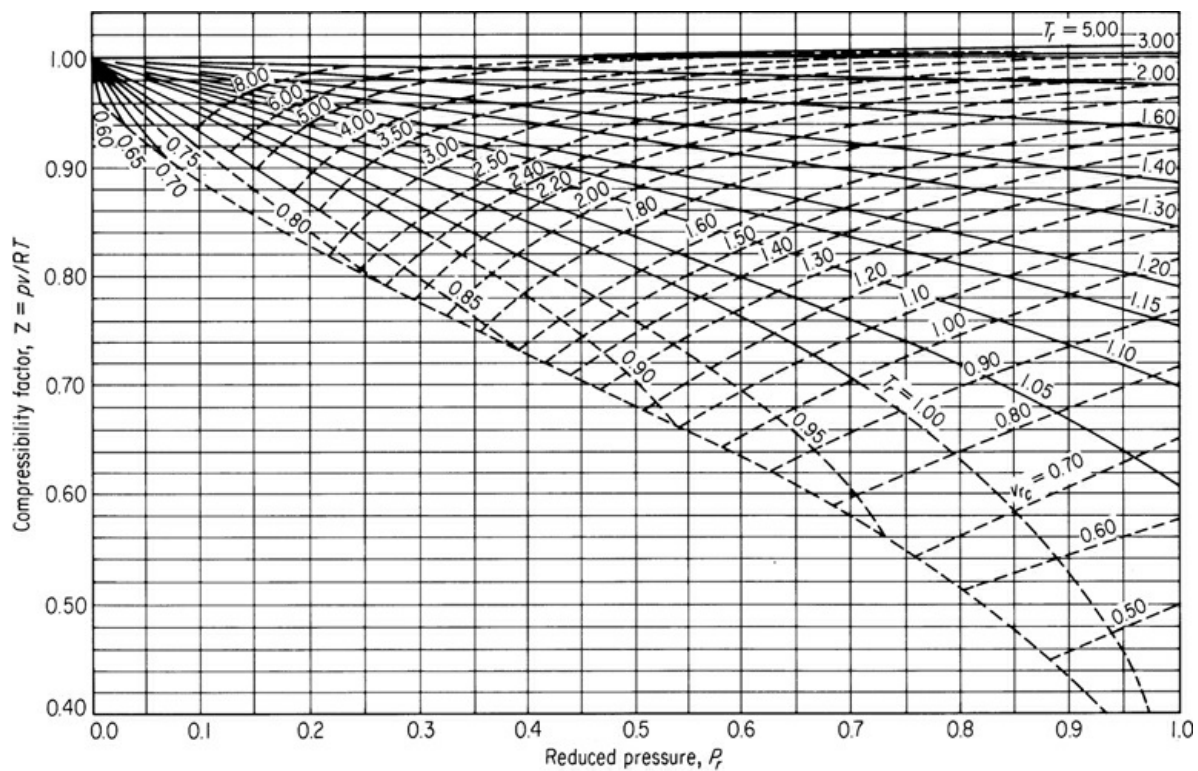
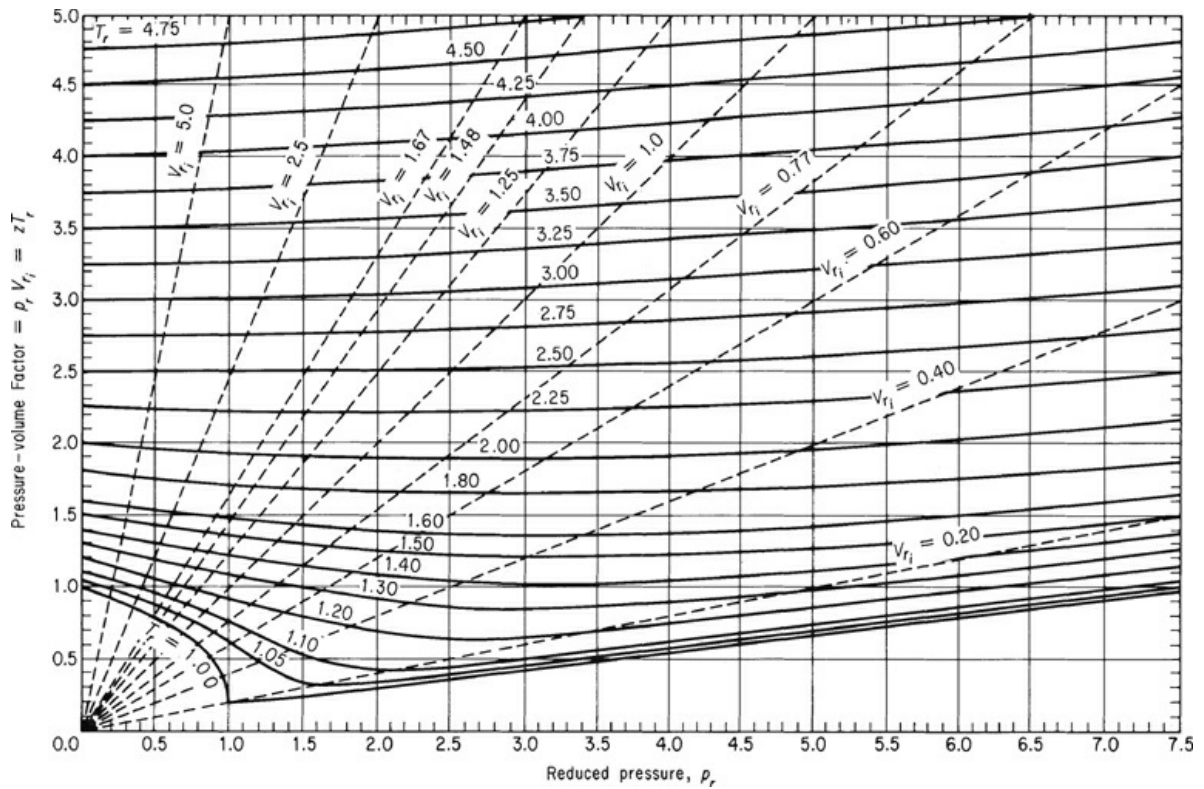

Figure 6.9a Generalized compressibility chart for lower pressures showing z as a function of p_r , T_r , and $\hat{V}_{ri}$.
Figure 6.9b Generalized compressibility chart for higher values of p_r
Figures 6.9a and 6.9b show two examples of the **generalized compressibility factor** charts prepared by Nelson and Obert.³ These charts are based on data for 30 nonpolar gases, including light hydrocarbons, CO_2 and N_2 . Figure 6.9a represents z for 26 gases (excluding H_2 , He , NH_3 , and H_2O) with a maximum deviation of 1% for z values greater than 0.6 and H_2 and H_2O within a deviation of 1.5%. Figure 6.9b is for nine gases, and errors can be as high as 5%. Note that the vertical axis in Figure 6.9b is not z but zT_r . To use the charts for H_2 and He (only), make corrections to the actual constants to get **pseudocritical** constants as follows:
Then you can use Figures 6.9a and 6.9b for these two gases using the pseudocritical constants as replacements for their true values.
1. What is in the blank region in Figure 6.9a below the curves for T_r and $\hat{V}_{ri}$? The blank region corresponds to a different phase: a liquid.
From the Nelson and Obert (N&O) chart, Figure 6.9a, you can read $z \approx 0.855$. The value may be somewhat in error because ammonia was not one of the gases included in the preparation of the figure. Rather than calculating the specific volume directly, let's calculate it from the ratio of $pV_{\text{real}} = z_{\text{real}}nRT$ to $pV_{\text{ideal}} = z_{\text{ideal}}nRT$, the net result of which is
From the N&O chart (Figure 6.9b) you can read